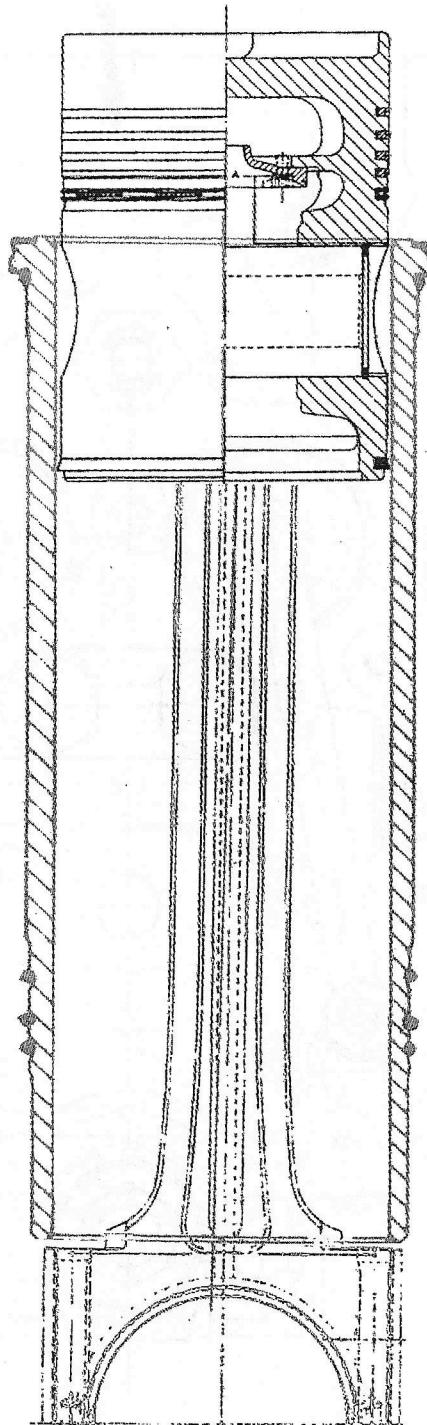

FIGURE 3
5. Lift liner and piston together as pictured in *figure 3*.